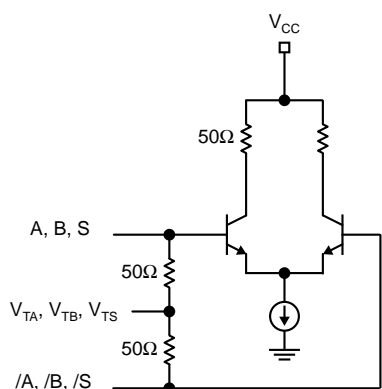

Figure 1a. Simplified Differential Input Stage
6. Due to the internal termination (see Figure 1a) the input current depends on the applied voltages at A, /A and V_{TA} inputs, the B, /B and V_{TB} inputs or the S, /S and V_{TS} inputs. Do not apply a combination of voltages that causes the input current to exceed the maximum limit!